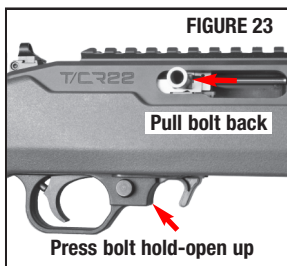

FIGURE 23
- Pull the bolt handle all the way back and press the bolt hold-open up and back (then allowing the bolt to move slightly forward) to hold the bolt open (FIGURE 23).